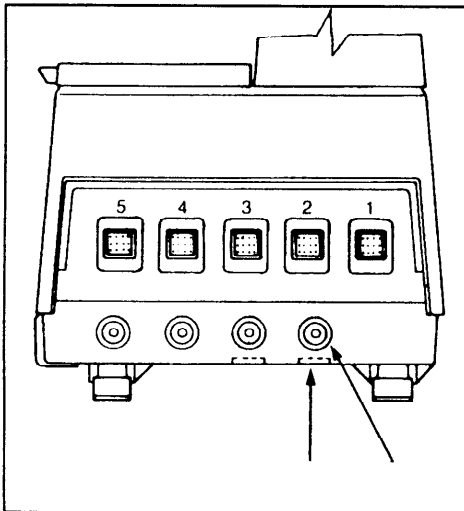

Figure 3.9
3. Using the fittings provided with the hoses and PTFE paste (P/N 900 236) on the threads, connect the first hose to one of the two-hose ports shown in Figure 3.9.
- b. 200 VAC or 230 VAC single-phase service: Connect the two input power leads to terminals L1 and L2. Do not use L3. Connect the ground wire to the terminal marked with the symbol for ground. Find junction terminal J7, Figure 3.9, and install a jumper (supplied in the ship-with parts) between the two terminals labeled 1J.
- b. 220 VAC single-phase service: Connect the two input power leads to terminals L1 and N. Connect the ground wire to the terminal marked with the symbol for ground. Find junction terminal J7, Figure 3.9, and install a jumper (supplied with the ship-with parts) between the two terminals labeled 1J.